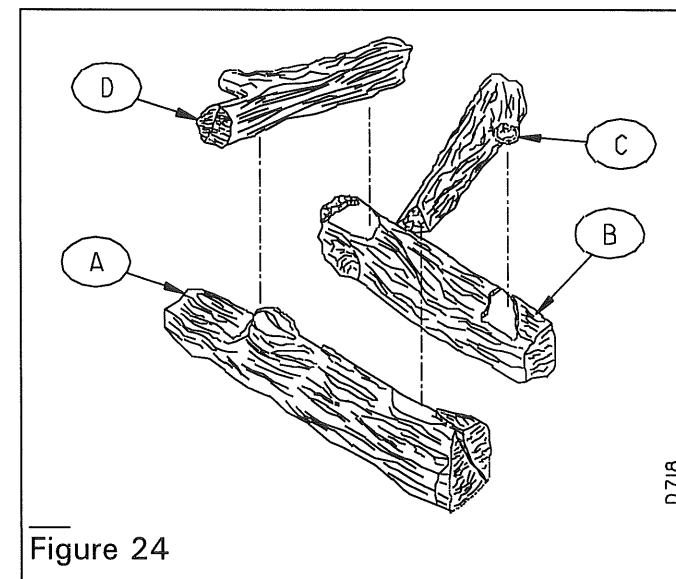

Figure 24
4. Carefully place the log set as shown in **Figure 24**. Be careful not to alter the pilot or burner location.